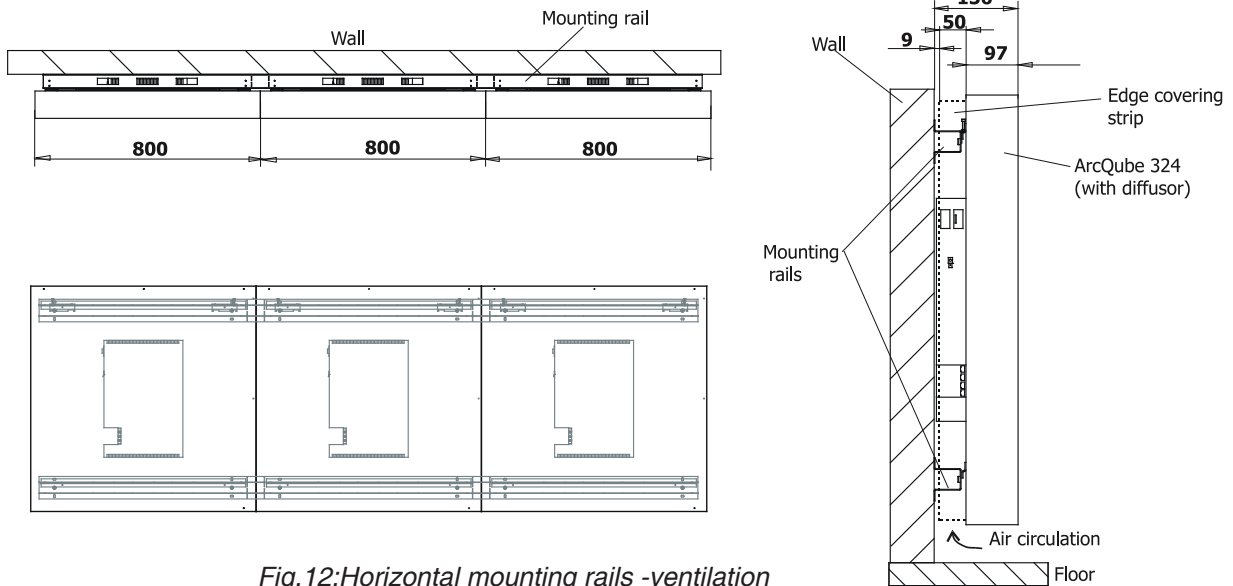

Fig.12:Horizontal mounting rails -ventilation
4. Hang the luminaire with the fastening rails (4,10) on the mounting rails. If the elements are installed in a group of luminaires, pay attention to wall spacing and venting (Fig. 12,13). Make vertical fine adjustments if necessary. Start from bottom to the top.